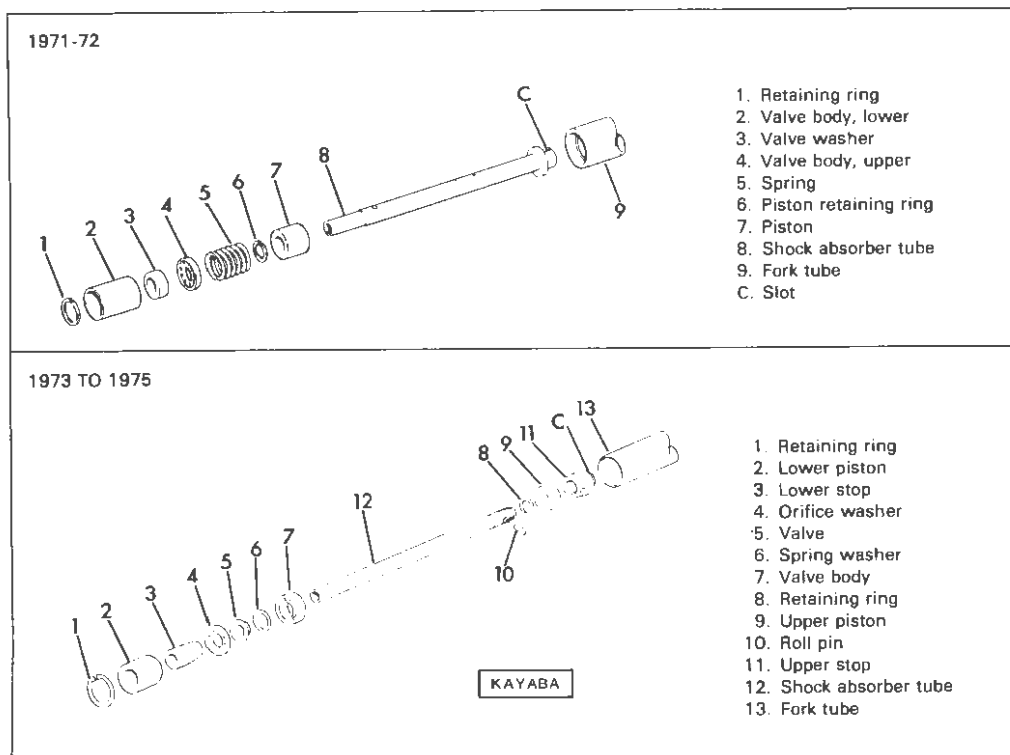

Figure 2-40. FX Front Shock Absorber - Exploded View
If snubbing action of the front fork remains unsatisfactory, bottoms on compression, stops suddenly on recoil and does not operate smoothly after eliminating malfunctions previously covered, disassemble fork as described in "Disassembling Front Fork Shock Absorber." Inspect shock absorber giving particular attention to the following parts (see Figure 2-40). Check fit of damper piston in fork tube and fit on shock absorber tube. Check seating of washer on upper and lower valve body faces. Replace worn or damaged parts.
On 1972 and earlier models, use Wrench, Part No. 94694-52, and disassemble retainer (7) from top of fork tube (8). Remove spring (9) and drain hydraulic fork oil from fork tube. Turn assembly upside down and remove bolt and washer (12). It may be necessary to insert Tool, Part No. 95991-69 or a long screwdriver into 3/32 wide x 1/2 long slot C (Figure 2-40) in upper end of shock absorber tube to keep it from turning while removing bolt (12). Free slider (10) from tube (8). On 1973 to 1975 models use Socket, Part No. 94556-73, with extension on upper end of shock absorber tube C (Figure 2-40) to keep it from turning.
DISASSEMBLING FRONT FORK SHOCK ABSORBER, 1971-1972 (Figure 2-40)
DISASSEMBLING FRONT FORK SHOCK ABSORBER - 1973 TO 1975 (Figure 2-40)